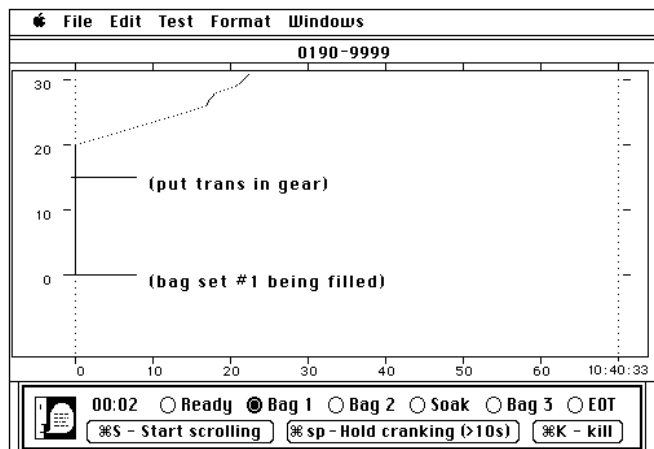

Figure 16
- 310 If the engine starts and continues to run, start the VDA trace scrolling by pressing <Command-S>, following the instructions at the bottom of the screen. See Figure 16.